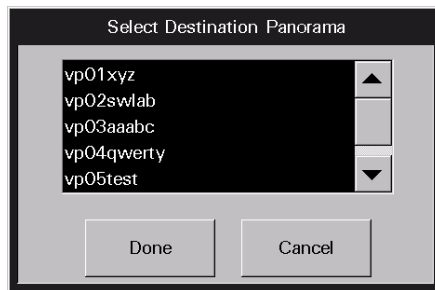

FIGURE 5-15 Select Destination Panorama List Box
5. Select the **Central To Central Without Device** button. The **Select Destination Panorama** list box (shown in FIGURE 5-15) is displayed.
- The **Transfer** button displays the Select Destination Panorama list box (shown in FIGURE 5-15) displays. Go to step 6 on page 5-25 and continue the transfer process. When a Destination Panorama is selected, the patient information is removed from the Failed Transfer List.